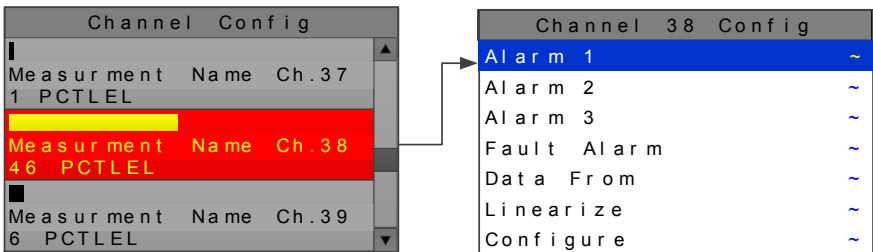

Figure 2-13
**CHANNEL CONFIGURATION** entry menu, shown on the left in Figure 2-13, use